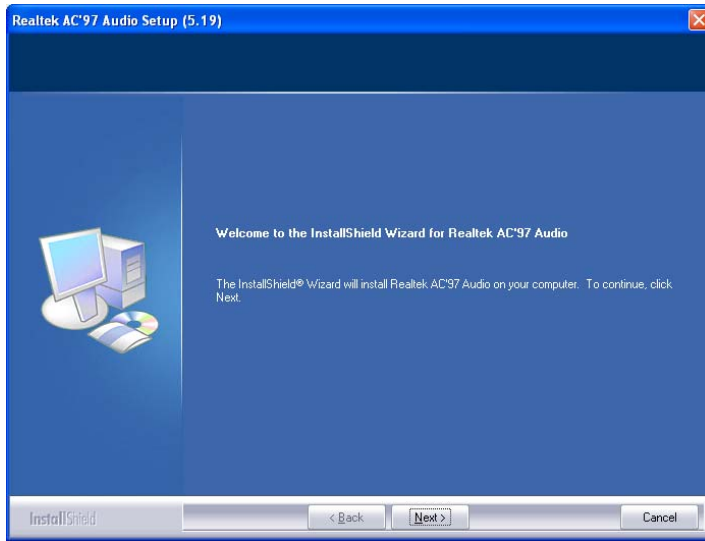

Figure 7-22: AC'97 Driver Installation Welcome Screen
- Step 6:** The AC'97 Driver Installation screen in **Figure 7-22** appears.